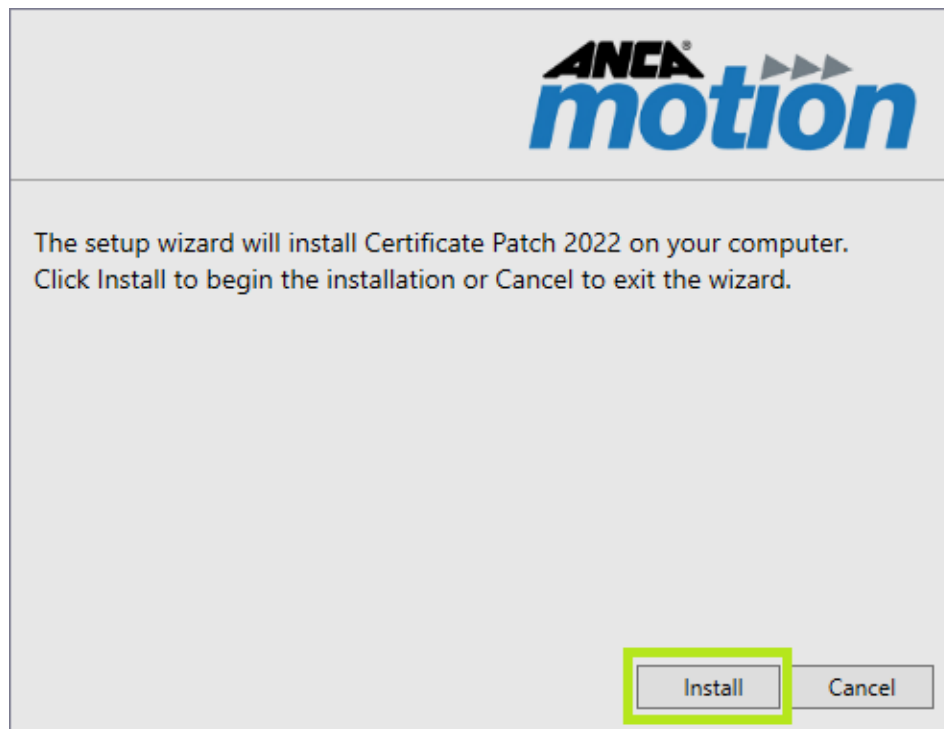
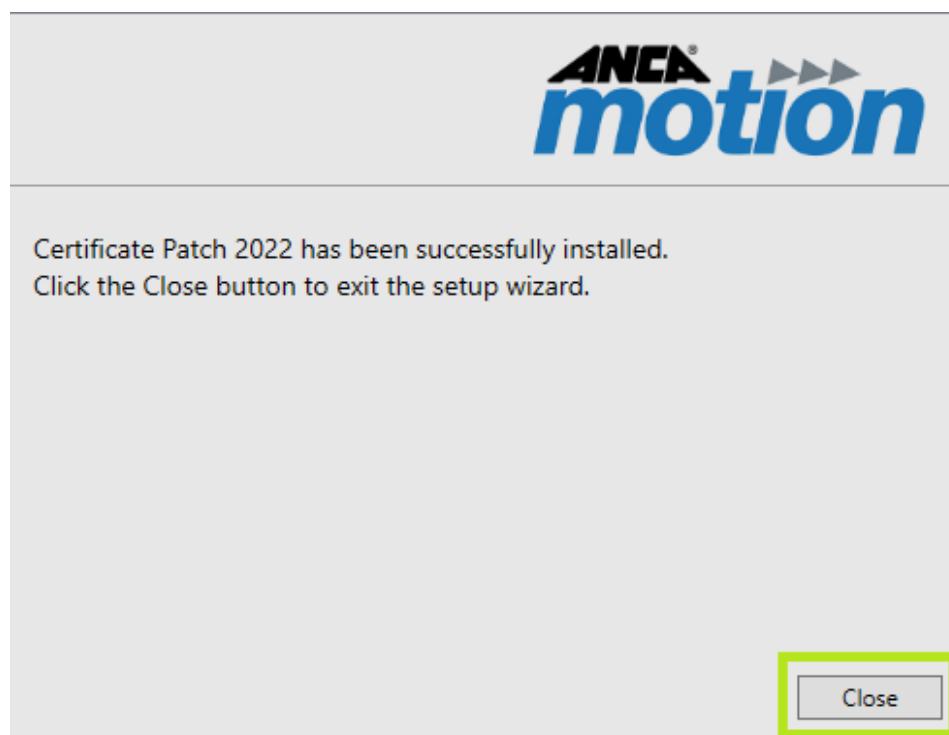

Figure 7 – Installation
Figure 8 - Installation finish
4. Once a “Dialog Box” is displayed as shown in Figure 7, click “Install” button to start. After the installation process is finished another “Dialog Box” is displayed as shown in Figure 8. Please click “Close” button to complete installation.